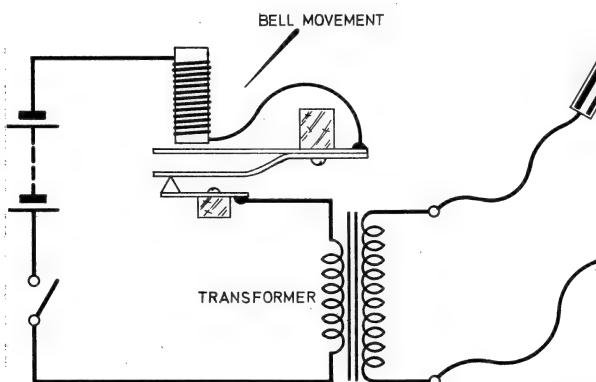

Fig. 1. Utilising a bell transformer a simple (and effective!) shocking coil can be made.
OF ALL the gadgets made by youngsters entering the hobby of electronics, the shocking coil is certainly among the top three favourites, so no excuse is needed to introduce the item here. There are several ways of making such a device and one that is probably the easiest to understand is outlined in Fig. 1.
One way is to pass the current through a small d.c. motor, thereby chopping-up the d.c. by the spinning of the armature. Another way is to feed a bell movement, as shown in Fig. 1. Notice that the bell transformer is operated in the reverse mode i.e. as a step-up transformer. To this end the chopped-up battery supply is fed into the winding that normally is connected to the bell, while the hand held probes are connected to the winding normally connected to the mains supply.
The suggested layout is based on 0.1 inch pitch stripboard, see Fig. 1. It is essential to cut the copper strips in the places indicated using a proper tool or with a small twist drill turned by hand. The i.c. may be soldered direct to the circuit panel but the use of an 8 pin socket is advised.
**Fig. 1.** The layout of the components on the stripboard and the breaks to be made on the underside of the board including wiring up details to other components and the flasher unit.